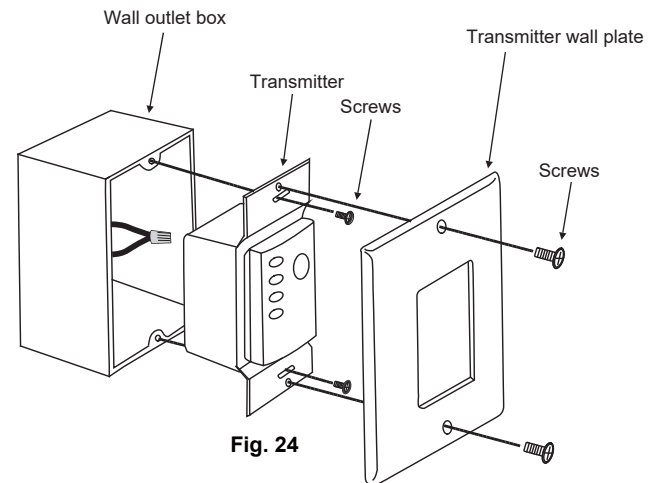

Fig. 24
Step 2. Use the screws provided to install the transmitter to the wall outlet box (**Fig. 24**).
Step 3. Use the screws provided to install the transmitter wall plate (**Fig. 24**).